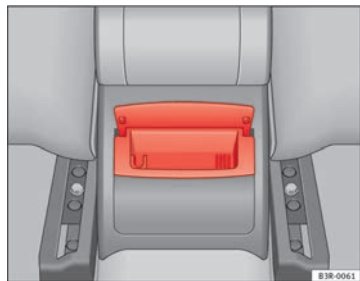

Fig. 133 Rear ashtray
- Take hold of the lid ⇒ Fig. 133 and lift out the ashtray.